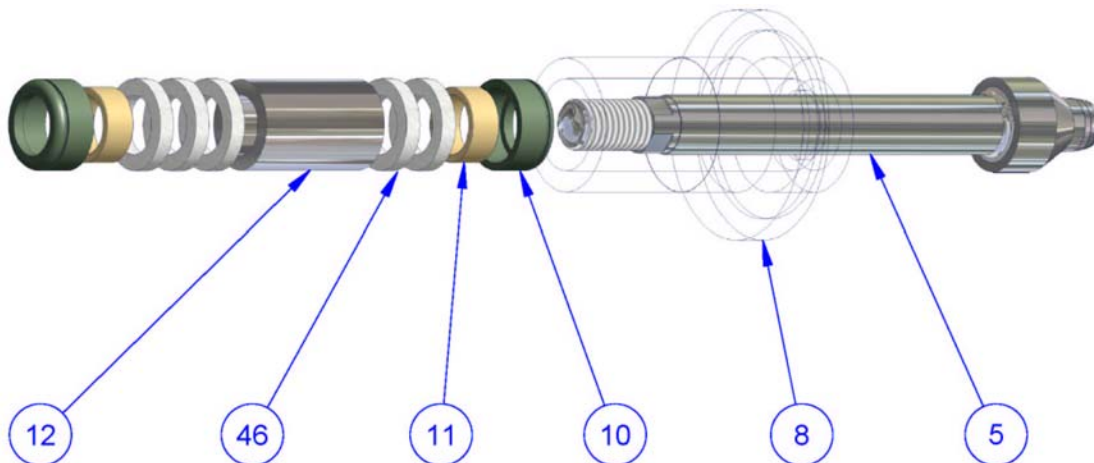

Figure 2 : Packing Arrangement
Please refer to Figure 2+3 (pg 8+9) and Appendix 5 (pg 13) for parts identification
- 9.8. Insert the solid lower guide retainer (10) or the retainer with liner (11), the lower gland packing (46), the packing spacer (12), the upper gland packing (46), upper guide retainer (10) and or liner (11), all in sequence. See Figure 2